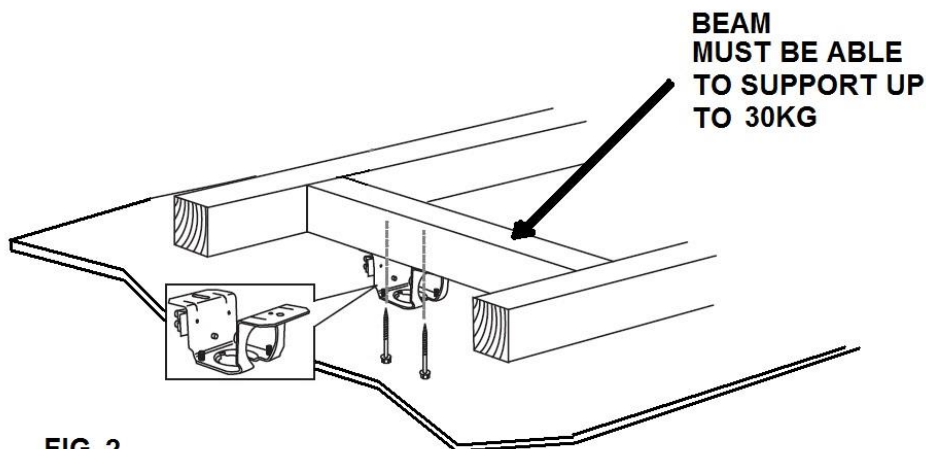

FIG. 2
2. Secure the hanging bracket to the ceiling joist or structure that is capable of carrying a load of at least 30KG, with two long screws provided. Ensure at least 30mm of the screw is threaded into the support. Fig 2.